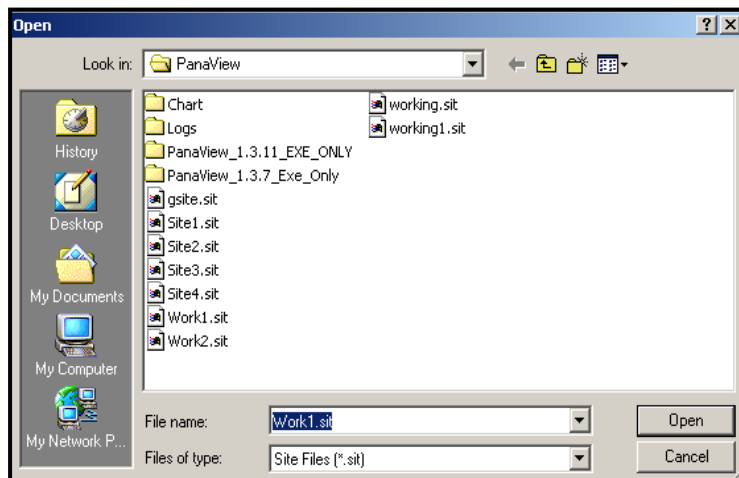
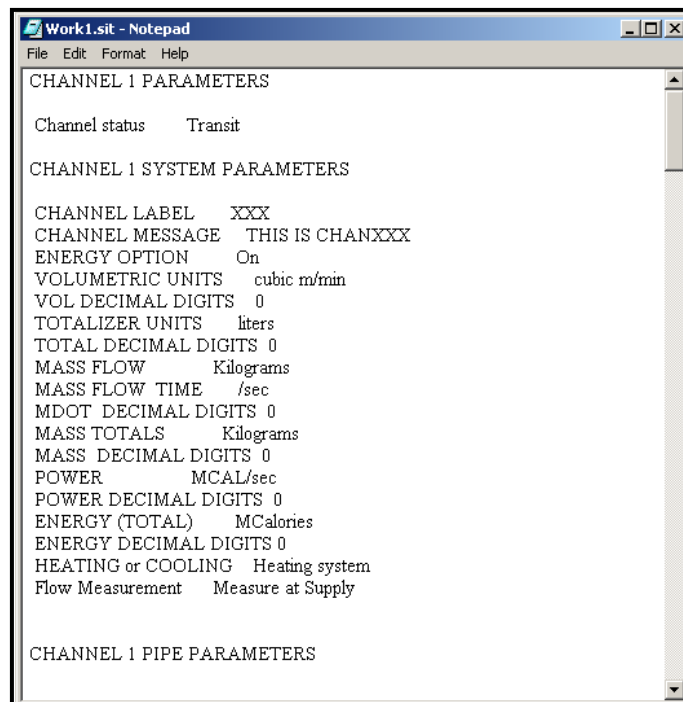

Figure 50: Site File Selection
Figure 52: Printout of Site File
2. Then click on the [Save Site to Meter] button. A screen opens similar to Figure 50.
2. Click [Save Site to PC]. A window opens similar to *Figure 50 on page 130*.
3. The *Site File Selection* window (as in *Figure 50* on page 130) opens. Enter the desired site name (now with a .prt suffix) and click on [Save]. PanaView displays a text version of the site, as shown in *Figure 52*.